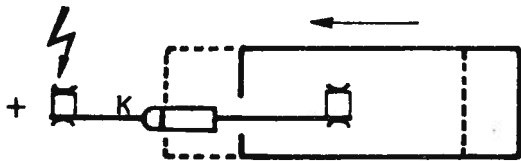

Fig. 17. Position of the screen over the semi-conductor under test
- The screen has two different openings. Depending on the semi-conductor under test, the big or small opening can be chosen, so that the anode connection is well screened against stray capacitance. Therefore the screen should be slid as far as possible over the semi-conductor under test (Fig. 17). For insensitive measurements it is not necessary to use the screen.